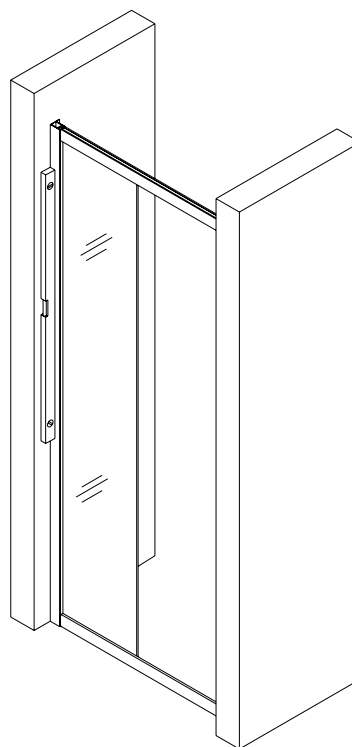
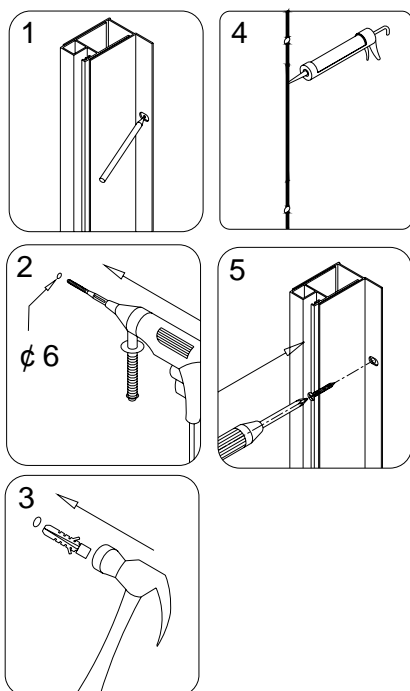

Fig 9
Fig 10
8. Carry the assembled unit on the top of tray, bath tub or stone base (depending on your installation); push it against wall. You can adjust position of the shower by pulling it partially out of the wall profile. Now adjust one of wall profiles vertically using level and mark holes on the wall. Using help to hold this profile in the right position, level another profile and mark holes. Gently move the assembled unit on the side, drill holes into the wall, insert anchors. See Fig 9 and Fig 10 for details.
9. Apply the silicone caulk along the holes on the wall. Place the whole shower assembly on the tray and attach it to the wall using **Round head screws ST4.2x30 (9)**. See Fig 10/4 and 10/5 for details.